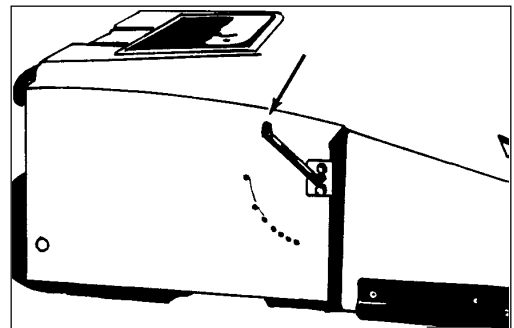

Figure 17
3. Put the brush adjusting lever in the unlock position. See figure 17.